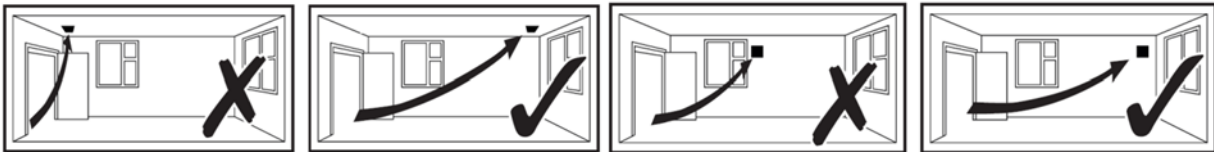

Fig.1: 411617 – X5 S
1. Select and follow the appropriate wiring diagram. (Fig. 1, 2 or 3)
See Fig 1, 2, 3, 4, 5, & 6
411617 - X5 S – Single speed fan. Controlled by remote switch (e.g light switch or auto sensor) Fig.1.